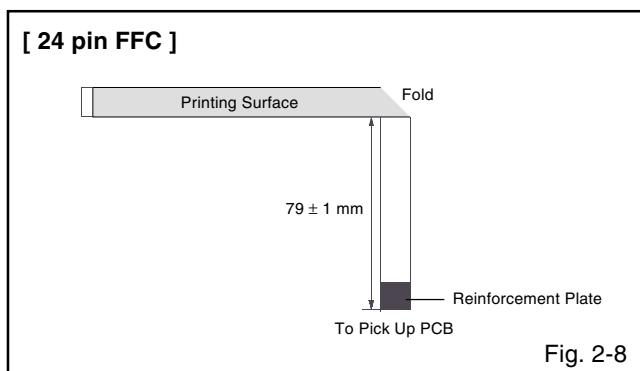

Fig. 2-8
- When installing the FFC, fold it correctly and install it as shown from Fig. 2-8.